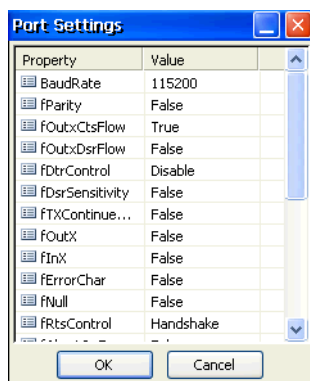

Figure 3-5. Port Settings Dialog Box – (for serial transport)
- *Port Settings* – opens the **Port Settings** dialog box to adjust port settings (see Figure 3-5 on page 3-4).